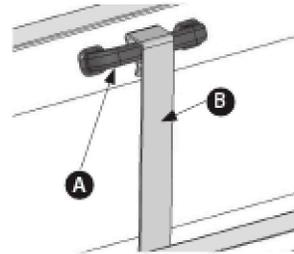

fig 3
- ⚠ WARNING: The side flaps (see fig 1) must not catch under any obstructions such as integral tub handles, handrails, soap dishes, or faucets when rising. If your tub has integral handles and the side flaps may catch, optional side flap protectors available (see *Section 15, ACCESSORIES*. Side flap protectors hook over integral tub handles (see fig 3) and help guide the side flaps smoothly over the handles.**